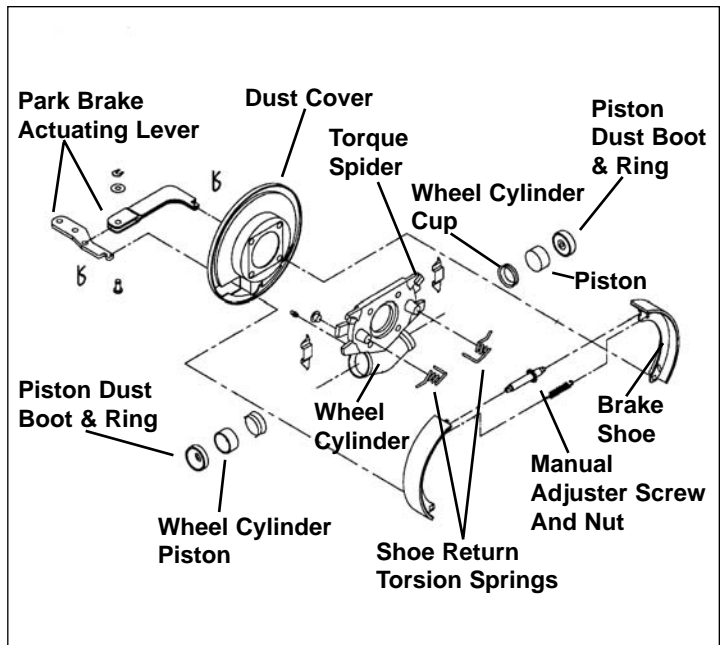

Figure 10 - Hydraulic Drum Brake Components
2. Locate the red and green brake shoe return tension springs. Using a pry tool, carefully pry the top of each spring from behind its tab on the torque spider. Unhook each spring from the torque spider and brake shoe and set it aside. Now, remove the blue spring holding the top of each brake shoe together against the adjuster. Remove the adjuster screw and nut. See Figure 10.
- c. Refer to Figure 10 for assembly.